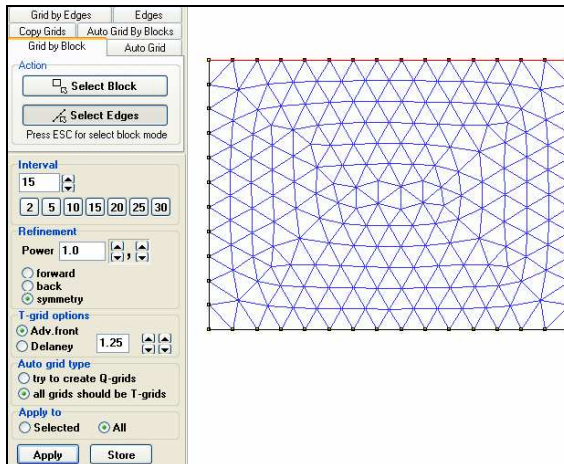

Fig. 7
- ✓ **Adv.Front**. The advancing front method builds internal cells close to equilateral triangles whose side size is equal to the boundary edge size, using no additional parameters (see Fig.7).